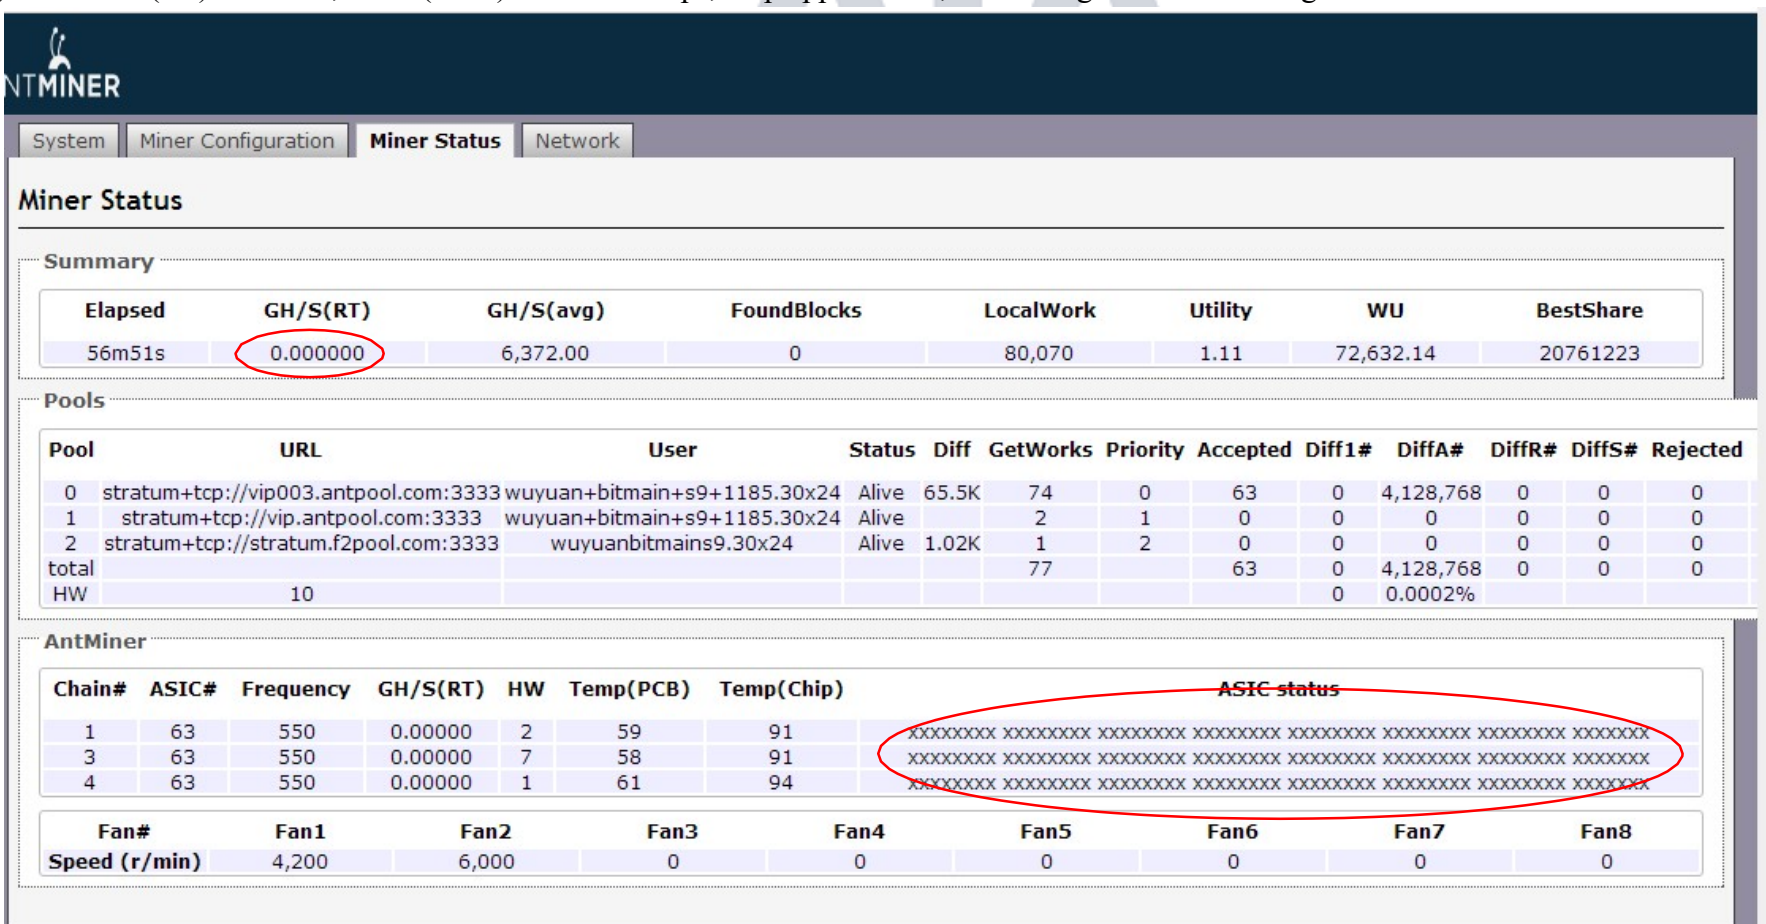

Fig 27. All Chips Appear XX
4) No GH/S(RT) hash rate, GH/S(AVG) hash rate drops, chip appears XX, and red light blinks. See Fig 27: